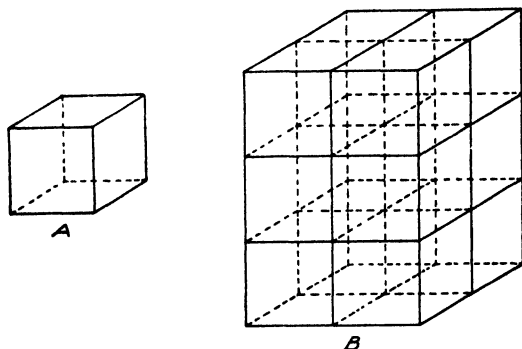

Fig. 44. Volume of a Rectangular Solid.
87. Volumes of Prisms. It has already been made clear in the discussion of *Cubic Measure* in denominate numbers that the measurement of volume involves the product of the three dimensions of the figure and is determined by the number of times the unit of cubic measure, such as the cubic inch, cubic centimeter, or cubic foot, is contained in the volume under consideration. If *A*, Fig. 44, represents a cubic foot, it will be noticed that *A* is contained four times in the bottom layer of *B*. As there are three layers, *A* is contained a total of twelve times in *B*, that is, the volume of *B* is 12 cubic feet.